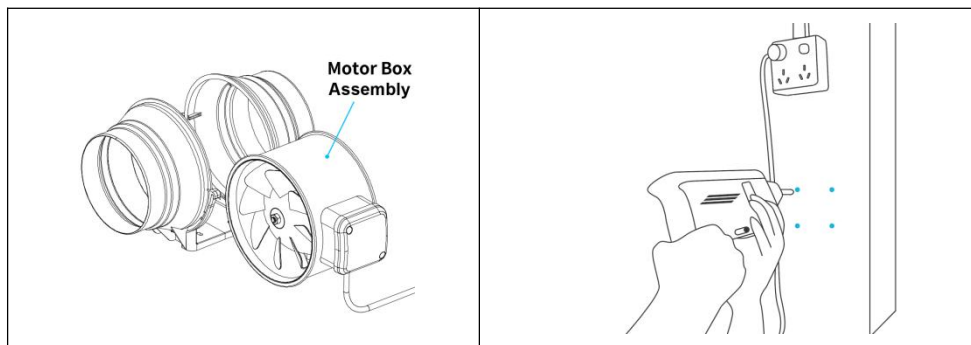

Fig.4.
4.Drill four holes into the marked locations. Make sure your mounting area is structurally sound and free from obstruction.See the(Fig.4.)